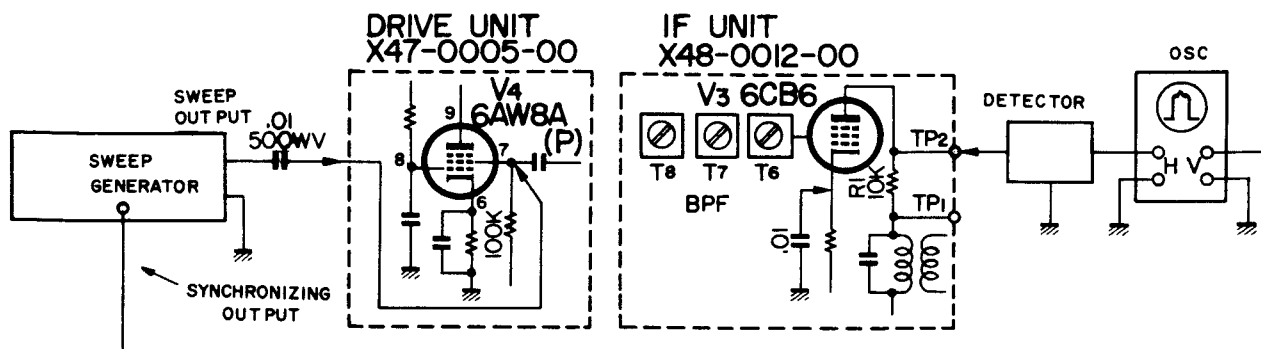

Fig. 6
### (3) Adjusting procedures: (Refer to Fig. 6)